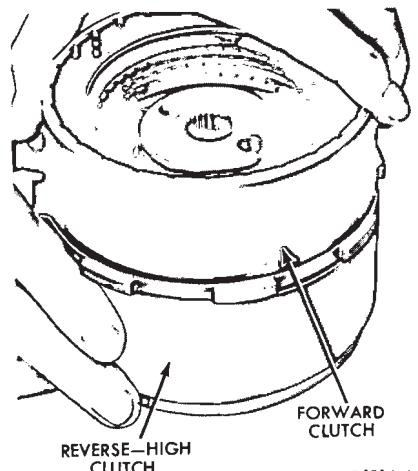

FIG. 104—Installing Clutch Units
22. On the bench, install the forward clutch in the reverse-high clutch by rotating the units to mesh the reverse-high clutch plates with the splines of the forward clutch (Fig. 104).